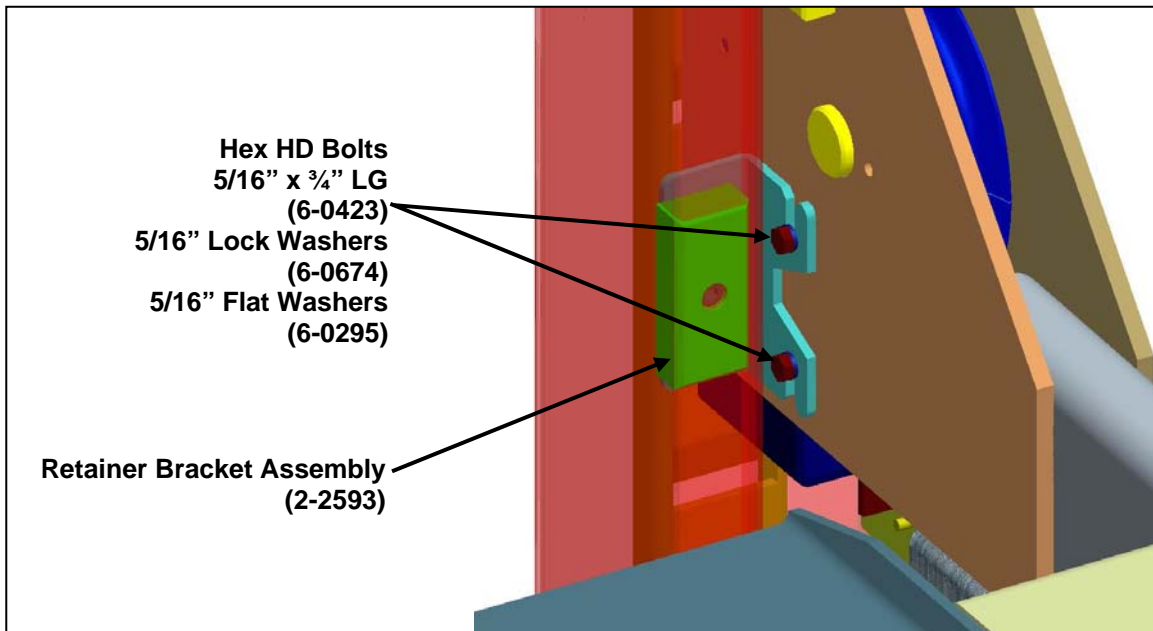

Figure 13. Retainer bracket installation
- Install the second 5/16" x 3/4" long hex head bolt and 5/16" lock washer through the lower slot and into the bottom mounting hole in the crossmember. Tighten both of the bolts. See Figure 13.